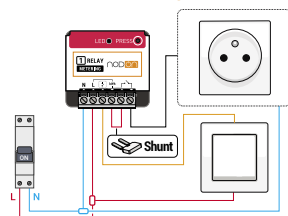

Figure 1
- 3 Wire the Zigbee Multifunction Relay Switch with metering, following the diagram figure 1.